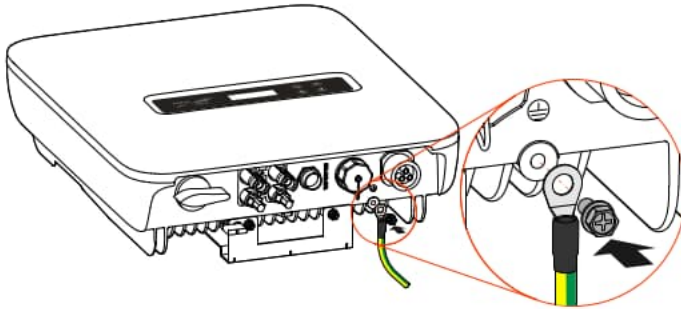

Figure3-14 External grounding wire connection
- Step 2 Connect the crimped grounding wire to the external grounding terminal, as shown in Figure3-14.